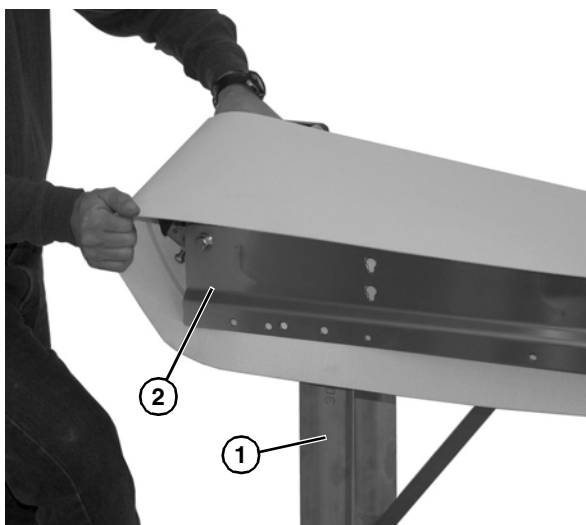

Figure 46
21. Remove the belt from under the stand (**Figure 46, item 1**) and from the conveyor (**Figure 46, item 2**) on both ends.